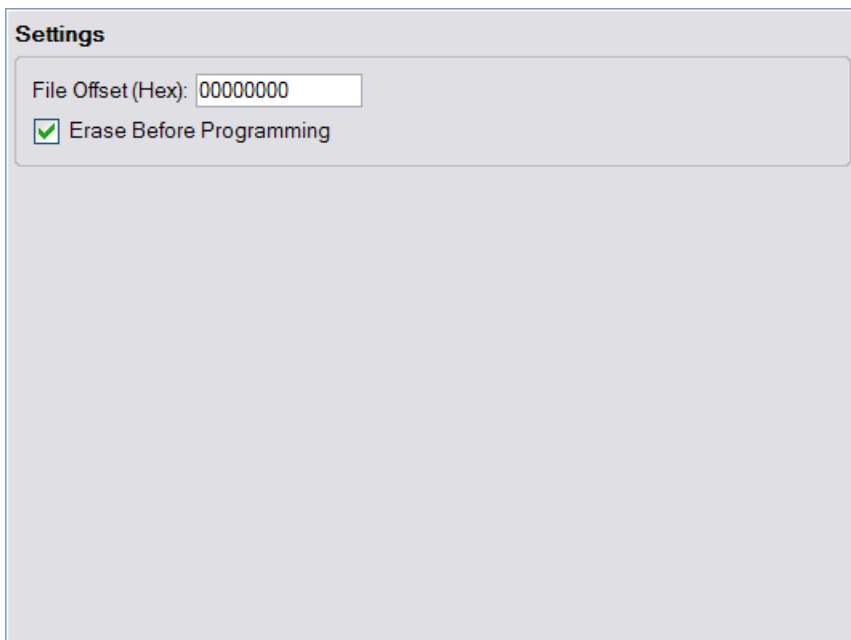

Figure 11. Smart Flash Programmer – Flash File Settings Detail, Advanced Configuration Window
- a. The Settings section appears in the right side of the Advanced Configuration window (Figure 11).